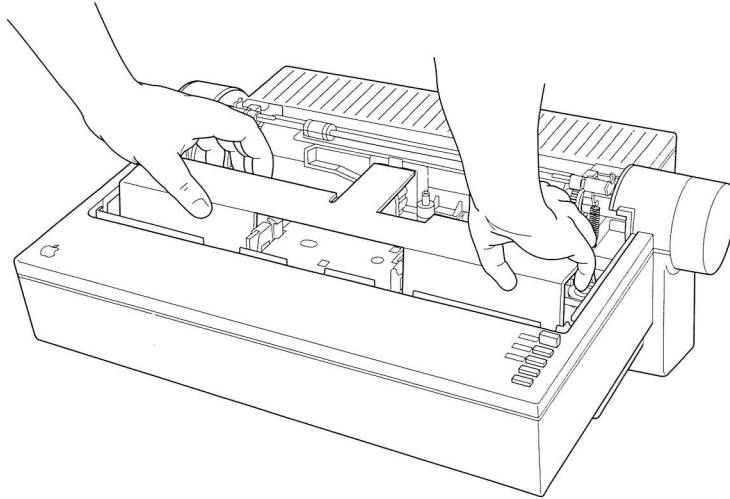

Figure 2-3 Removing the cardboard retainer
5. **Remove the cardboard retainer.** (See Figure 2-3.)